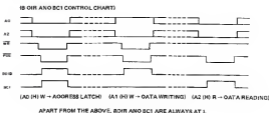

Fig. 13-36 PSG BDIR, BC1 control chart
The PSG is accessed by BDIR and BC1 with BC2 and A8 at H level and A9 at L level. (A2 is applied to the A9 input to prevent generation of address images.) BDIR and BC1 are both changed to H by writing the I/O address A0 (H), and the register address is then latched by the PSG. Data writing is executed when BDIR is changed to H with BC1 remaining at L by A1(H) writing, and data reading is executed when BC1 is changed to H with BDIR remaining at L by A2(H) reading. The timing for these operations is outlined in Fig. 13-36.